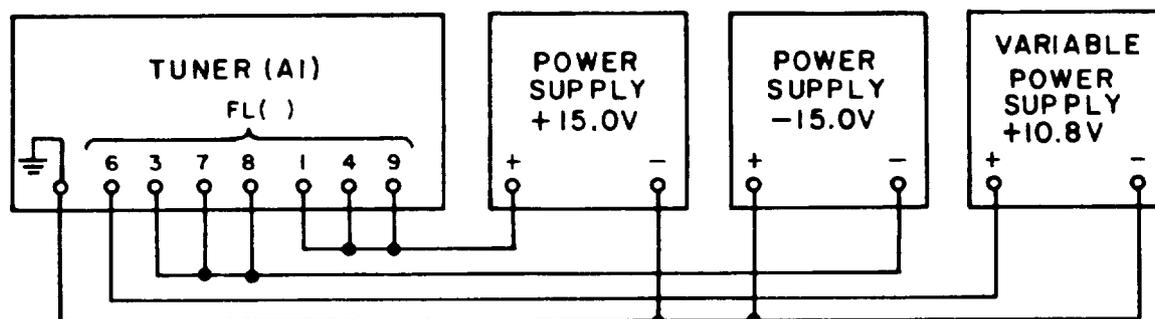
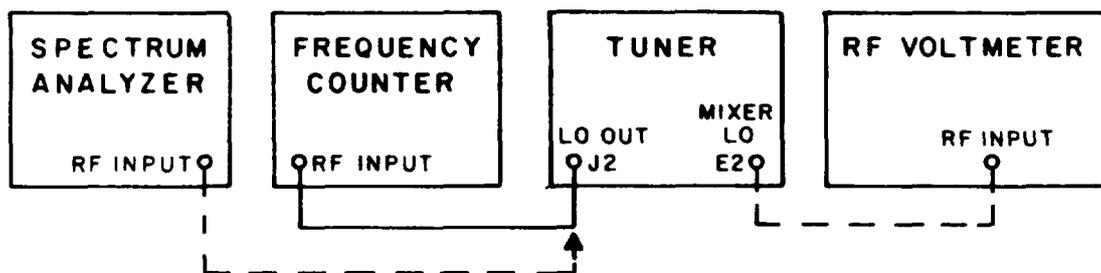

Figure 4-6. Test Setup, Tuner Power Connections
Figure 4-9. Test Setup, Oscillator Stage Alignment
- (1) Remove the tuner from the associated receiver's chassis (if any) according to the procedure given in paragraph 2.2.
- (2) Connect operating voltage to the tuner as shown in Figure 4-6.
- (1) Keep the following considerations in mind while performing the alignment:
- (2) Provide power to the tuner by connecting the power supplies as shown in Figure 4-6. Then connect the test equipment as shown in Figure 4-9.